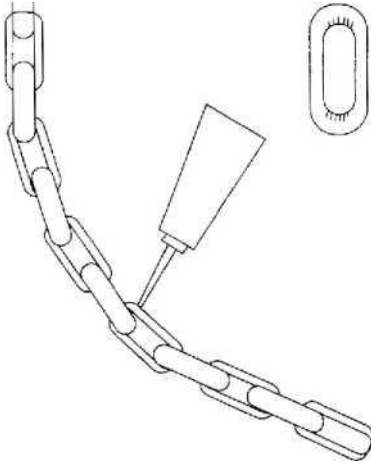

Fig.4.5
- Lubricate each link of chain connection and load pulley. After the lubrication, lift the chain up and down without load in order to daub lubrication equably. (Fig.4.5)